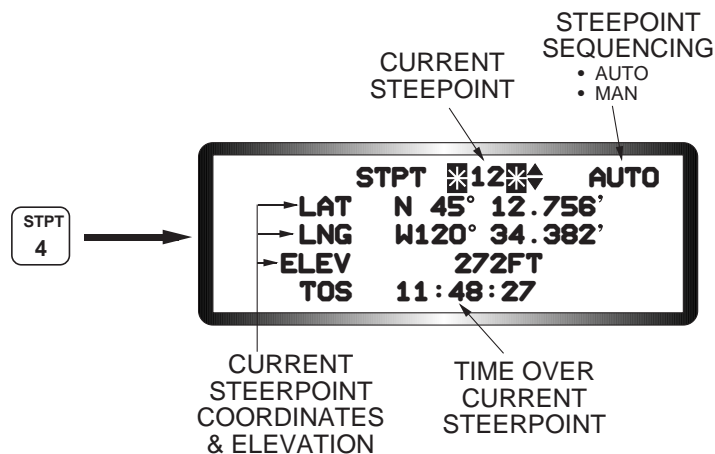
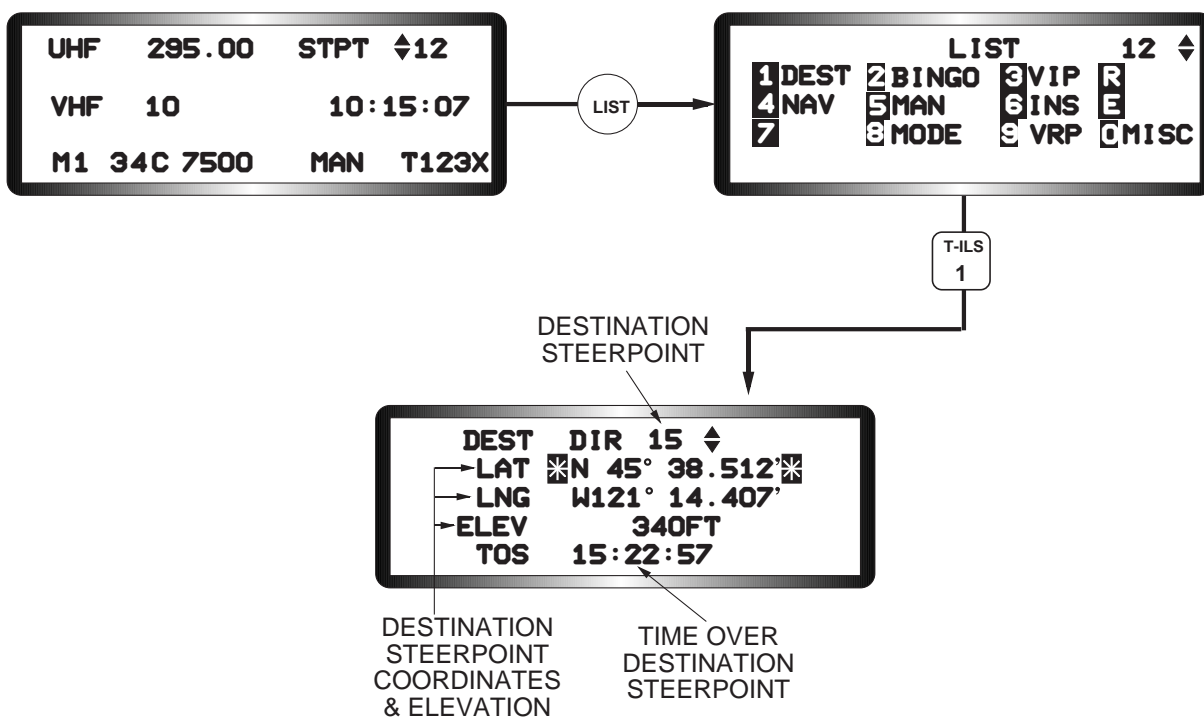

Figure 2-6 Steerpoint DED Page
Figure 2-7 Destination DED Page
**Normal INS Navigation.** The INS provides great circle steering to any of 99 pilot selectable steerpoints. Steerpoints are determined during mission planning and entered through the DTC. The pilot may check the coordinates of any steerpoint and make changes, if necessary, using either the STPT DED page (Figure 2-6) or the DEST page (Figure 2-7). To observe and/or change coordinates of a particular steerpoint without affecting navigation to the current steerpoint, the pilot must use the DEST page. The current steerpoint, the one the pilot is navigating to, is manually selectable from the CNI page using the INC/DEC switch on the ICP. Or the pilot may change the current steerpoint with the STPT page using either the INC/DEC or ICP number keys and ENTR.